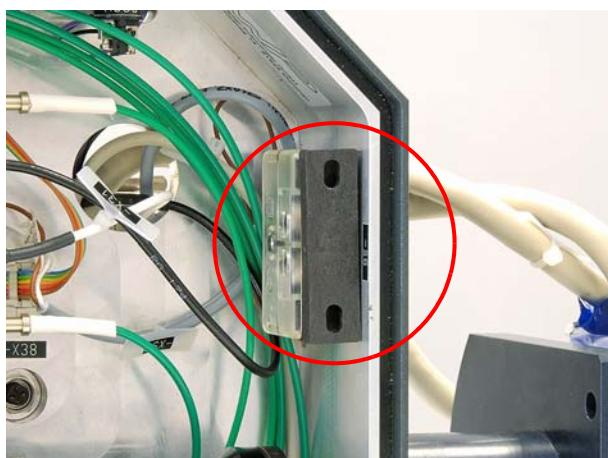

Figure 5.17 Interlock switch bridged
2. Bridge the interlock switch (Figure 5.17).